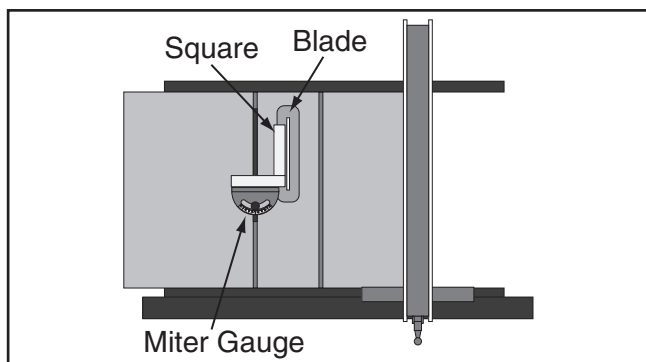

Figure 143. Checking 90° stop on miter gauge.
4. Place the 90° square evenly against the face of the miter gauge and the blade, as shown in **Figure 143**.